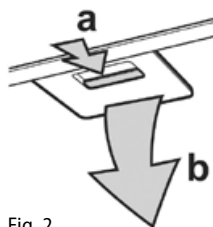

Fig. 2
2. Remove the metal filter (Fig. 2). If a carbon filter is mounted, remove it.
2. Remove the metal filter (Fig. 2), and remove the carbon filter from it.